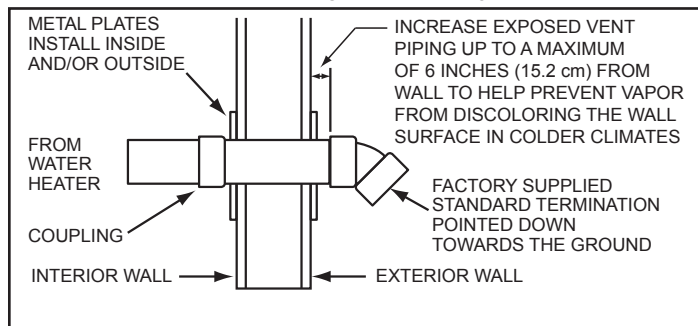

Figure 26. Side-Wall Termination Installation
9. Cut a length(s) of pipe being installed 3.5 inches (8.9 cm) to 9.5 inches (24.1 cm) longer than the wall thickness at the opening. See **Figure 26** (page 28).
12. Working from outside, slide the pipe and termination(s) assembled in the above steps through the wall. Ensure the termination(s) is pointed down towards the ground. See *Figure 26*.
16. Install a coupling to the end of the pipe(s) inside the building. Before the silicone caulking has time to completely set go outside the building and ensure the termination(s) is still pointing down towards the ground. See *Figure 26*.